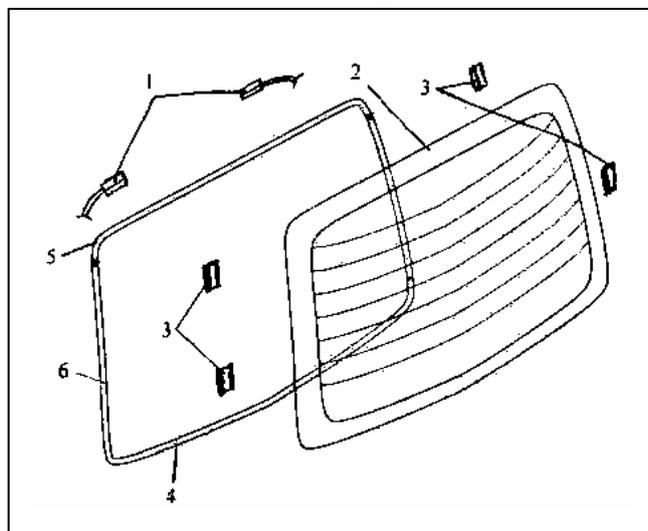

Fig. 19-26
(1) Removal sequence as shown in Fig.19-26
① Harness connector ④ Weather strip lower
② Tail door glass ⑤ Upper Weather-strip
③ Dual lock fastener ⑥ Both side Weather-strip **Removal key points**